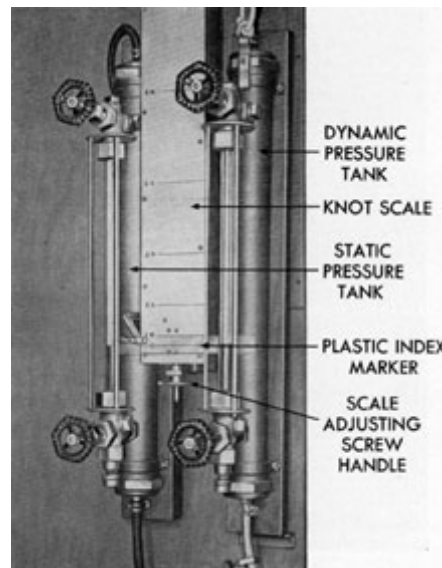

Figure 7-2. Pressure tanks at zero position.
**7A9. Testing equipment at surface pressure.** (See Figures 7-2 and 7-3.) To operate the units at normal surface pressure, set the valves and vent cocks of the control unit to the operating position as shown in Figure 3-3. Vent both the static and dynamic tanks to the same level at the zero point on the knot scale. The top connections of the tanks are open to the atmosphere. Energize the pump motor power supply. Raise the dynamic tank to the knot mark